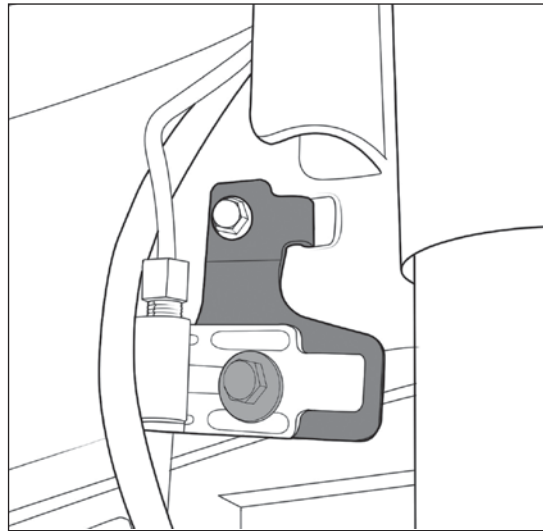

Figure 31
22. For **2007–2010** model year JK's install the front brake line drop brackets tightening to 8 ft-lbs (Fig. 31).